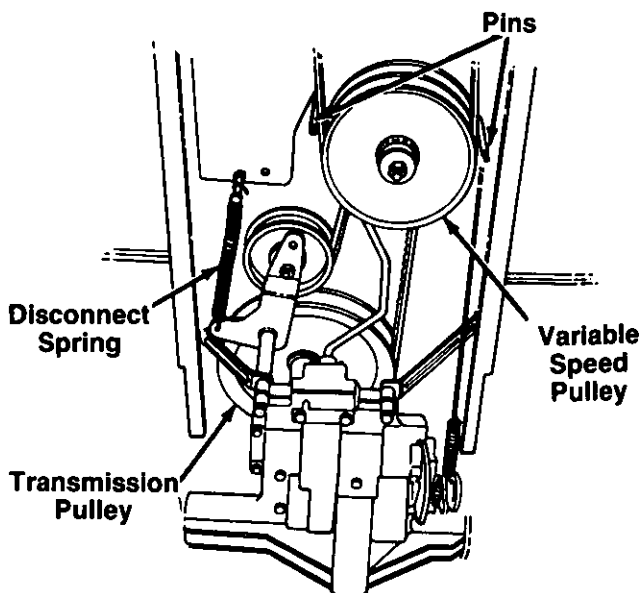

FIGURE 20.
- Remove the two pins which act as belt keepers by the variable speed pulley. See figure 20.